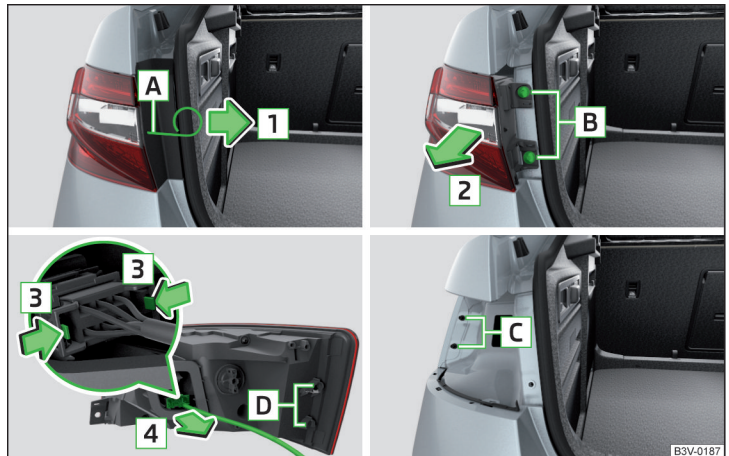

Fig. 275 Remove light / pull out connector
- Insert into opening **A** » Fig. 275 the clamps for removing the full wheel covers » page 223, *Vehicle tool kit*.
- › Slide the plug in the opposite direction of the arrow **4** » Fig. 275 into the light.